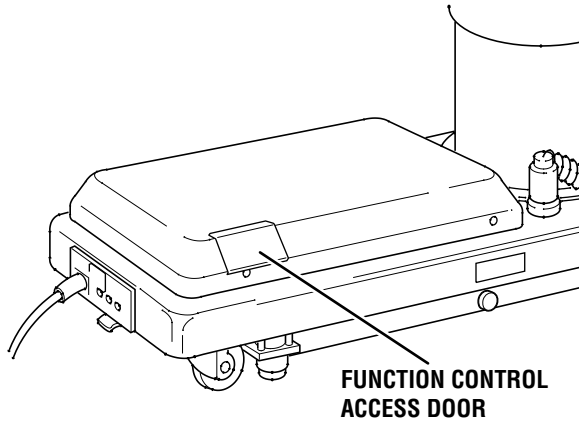

Figure 2-3. Emergency Controls Location
a. The emergency back-up control switches are located under the access door on the service access cover in the table base. See figure 2-3.